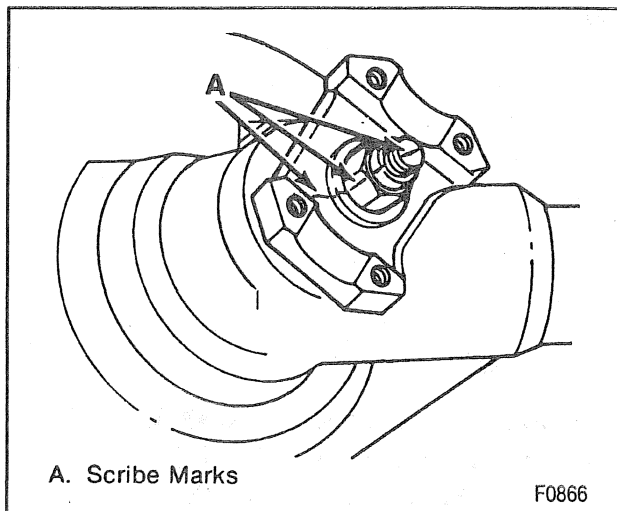

Figure 16—Scribed Marks
- Scribe a line on the pinion stem, pinion nut and the companion flange and record the number of exposed threads on the pinion stem. Use the scribed reference and the exposed threads as a reinstallation guide (figure 16).
- Place washer and nut on the pinion threads and tighten the nut to the original scribed position using the scribe marks and exposed threads as a reference (figure 16).